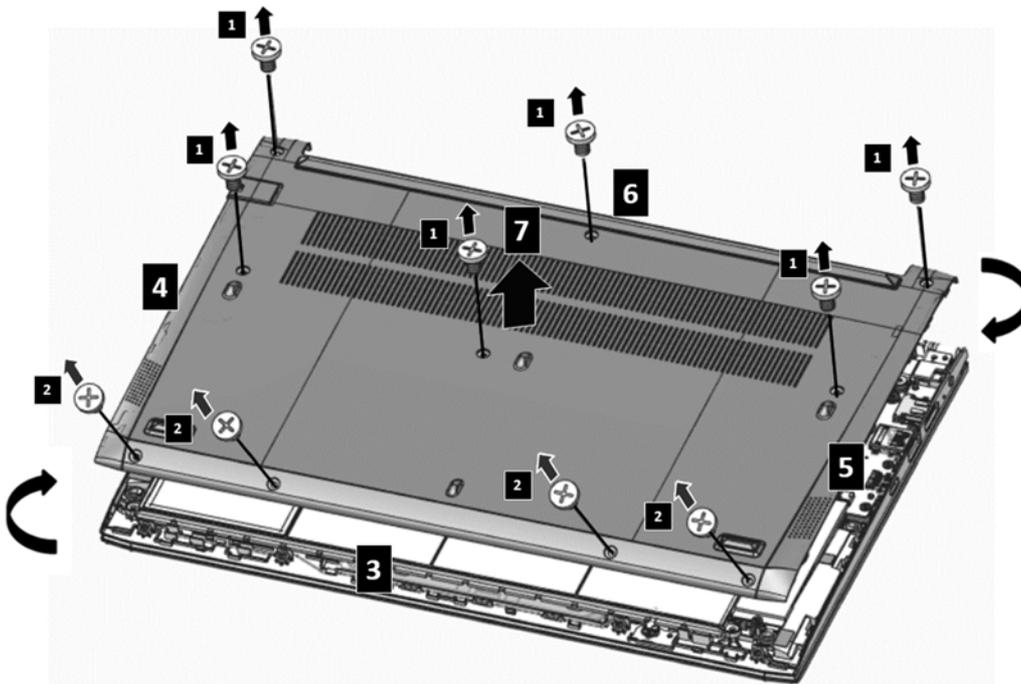

Figure 4-1 Removing the Base Cover
Remove the base cover according to the following procedures and Figure 4-1.
2. Tighten the six M2×5 screws ,1 and four M2x3 screws ,2(the four screws have angles) to secure the base cover to the logic upper assembly. (as shown in Figure 4-1)